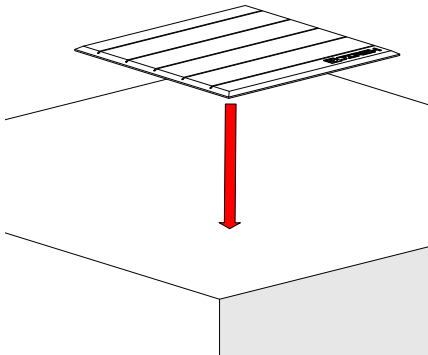

Fig. 83 - Attach mat to scanning surface
2. Place the installation/removal mat on the inspection surface (Fig. 83).
3. Place and hold the crawler on the installation/removal mat (Fig. 83).